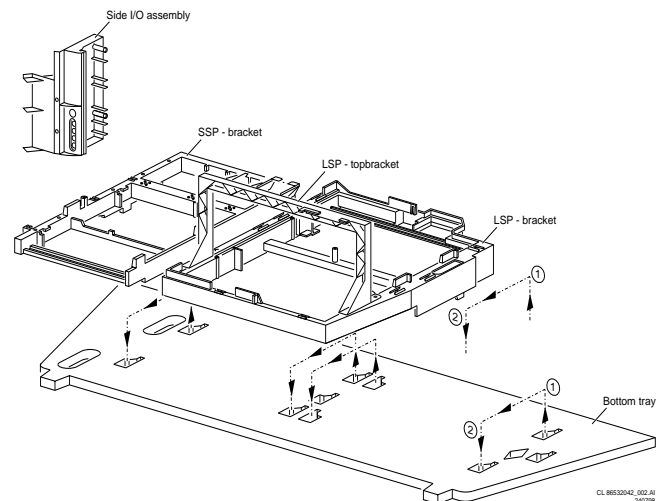

Figure 4-3
4. Hook the brackets in the first row of fixation-holes of the bottom tray; see figure 4.3. In other words re-position the fixation from (1) to (2).
1. (See figure 4.3). Remove the two fixation screws of the LSP-topbracket (one on the left hand side, one on the right hand side).